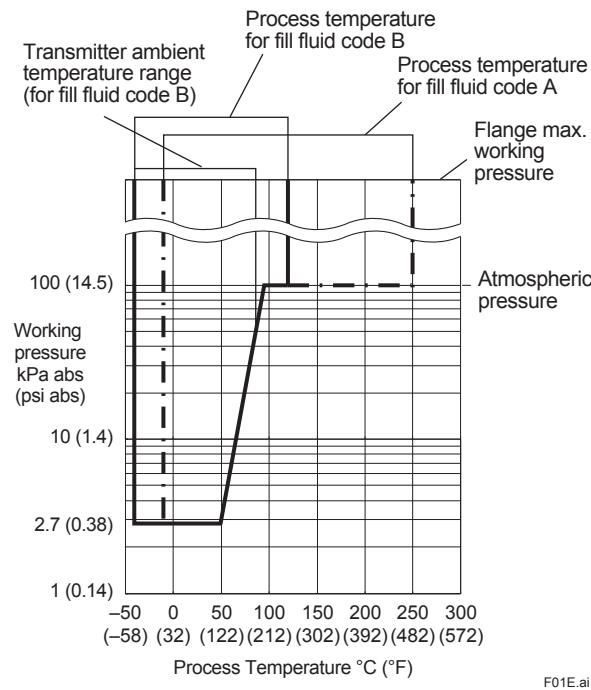

Figure 1. Working Pressure and Process Temperature (Fill fluid: silicone oil for general and high temperature use)
For atmospheric pressure or below, see figure 1.
*1: See figure 1 'Working Pressure and Process Temperature.'